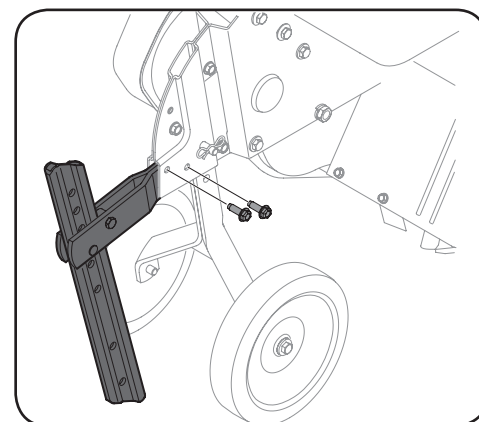

Figure 3-4
- Remove the two screws from the bracket in the chain case. See Figure 3-4.
- Insert the horizontal bracket into the chain case brackets and secure the depth stake assembly in place with the screws just removed in step 2. See Figure 3-4.